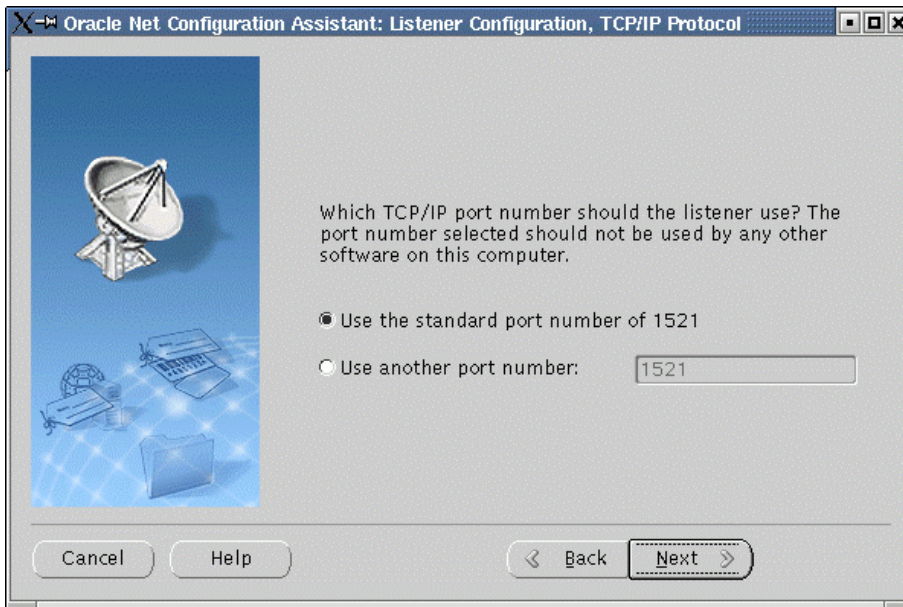

Figure 73. netca - tcp/ip protocol
- The next screen, Figure 73, asks for the tcp/ip port. Leave the default and click **Next** to continue.